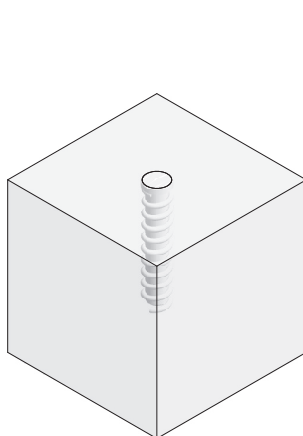

Fig. 9.3
1. After pouring the concrete, press the spiral anchor into the concrete where required. Make sure to press it so deep into the concrete that its end is flush with the concrete surface (Fig. 9.3).